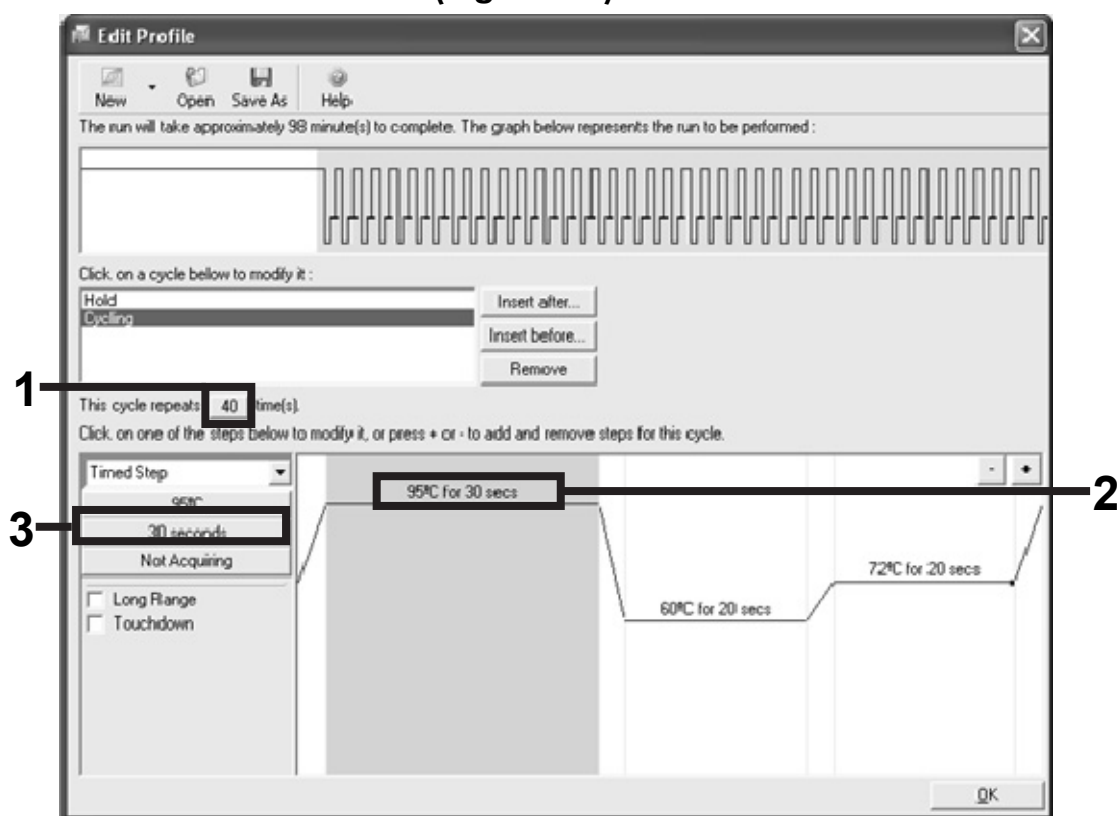

Figure 20. Cycling step at 95°C.
Amplification of the DNA	Figures 20–21
9. Change the number of cycle repeats to 40. Select the first step and set to 95°C for 30 secs (Figure 20).